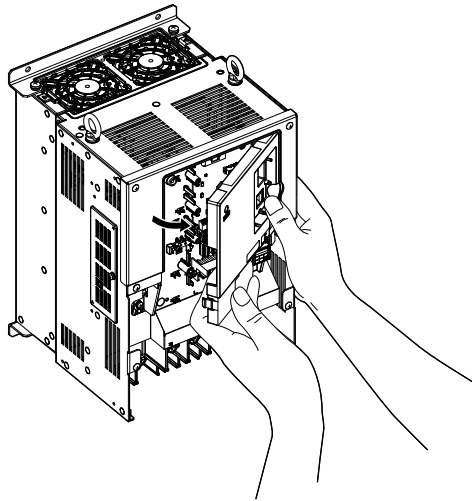

Figure 3.18 Remove the Front Cover (2A0010 to 2A0415 and 4A0058 to 4A0675)
4. Unhook the left side of the front cover then swing the left side towards you as shown in Figure 3.18 until the cover comes off.